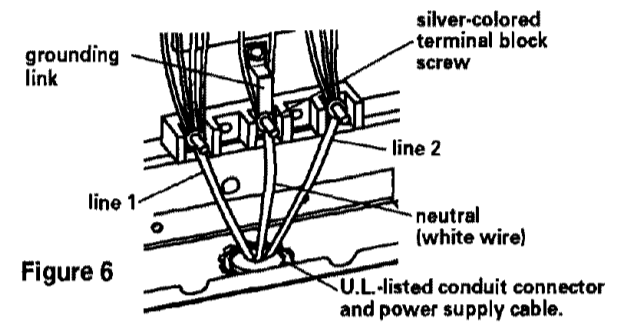

Figure 6
8. Use the brass terminal nuts attached to the inside of the terminal block cover to connect the neutral wire (white wire) to the silver-colored terminal screw on the terminal block. See Figure 6.
9. Connect the other two wires to outer terminal screws on the terminal block. See Figure 6.